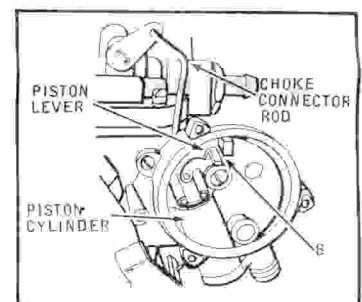

FIGURE 4
##### Type I (Fig. 4)
**Type III (Fig. 4)**